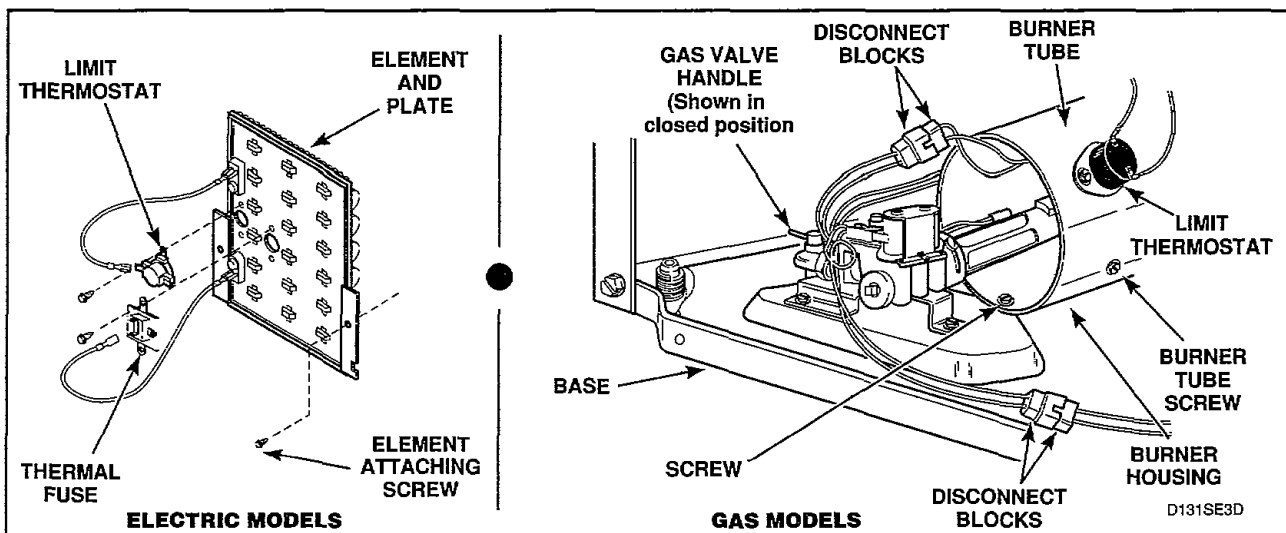

Figure 30
- (2) Gently lower the access panel to disengage guide lugs from bottom edge of front panel.
- (3) Close gas shut-off valve, disconnect igniter wires at disconnect blocks, sensor wires from flame sensor terminals, and wires from gas valve coils at the quick disconnect blocks, *Figure 30*.
- Disconnect igniter wires at disconnect blocks, sensor wires from flame sensor terminals, and wires from gas valve coils at quick disconnect blocks, *Figure 30*.
- Remove screw from right side of burner housing holding burner tube in place, *Figure 30*.
- Remove screw holding front of burner housing to dryer base and remove housing out through front of dryer, *Figure 30*.
- Disconnect wires and remove screws holding limit thermostat to burner housing or element plate, *Figure 30*.
- Remove two screws holding element and plate to heater box and pull element down and away from heater box, *Figure 30*.
- Disconnect wires from element and plate, *Figure 30*.
- Remove screws holding thermostat and thermal fuse to element plate, *Figure 30*.